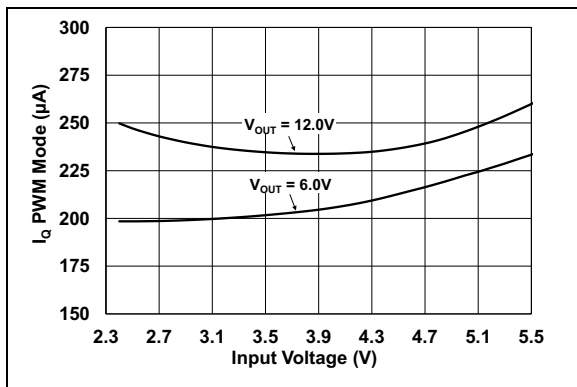

FIGURE 2-8: No Load Input Current, I_{INO} vs. V_{IN} ($EN = V_{IN}$).
- 2:** I_{IN0} varies with input and output voltage (Figure 2-8). I_{IN0} is measured on the V_{IN} pin when the device is switching (EN = V_{IN}), at no load, with R_{TOP} = 120 kΩ and R_{BOT} = 1.05 MΩ.
- 2:** I_{IN0} varies with input and output voltage (Figure 2-8). I_{IN0} is measured on the V_{IN} pin when the device is switching ($EN = V_{IN}$), at no load, with $R_{TOP} = 120\text{ k}\Omega$ and $R_{BOT} = 1.05\text{ M}\Omega$.